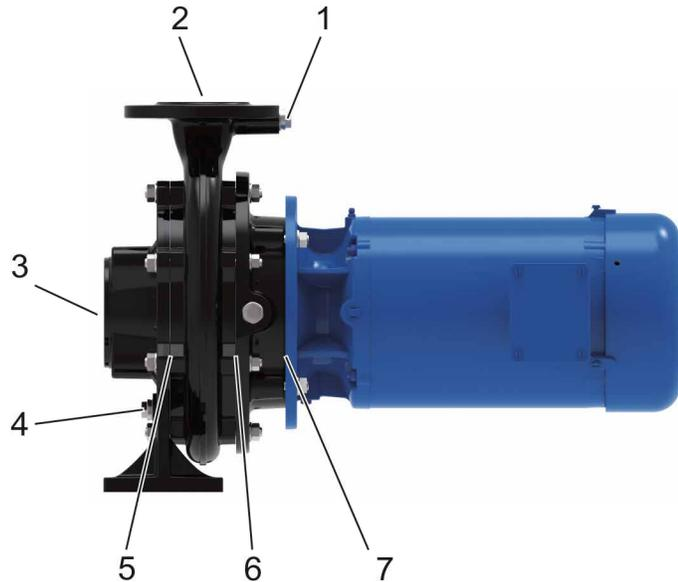

Fig. 45 Places to check if water is leaking from the pump
- Screwed plug (Fig. 45/1)
- Flange (Fig. 45/2)
- Flange (Fig. 45/3)
- Screwed plug (Fig. 45/4)
- The joint between the casing cover and the pump casing (Fig. 45/5)
- The joint between the pump casing and the intermediate casing (Fig. 45/6)
- The joint between the block motor (Fig. 45/7) only on the version with Seal Guard system)